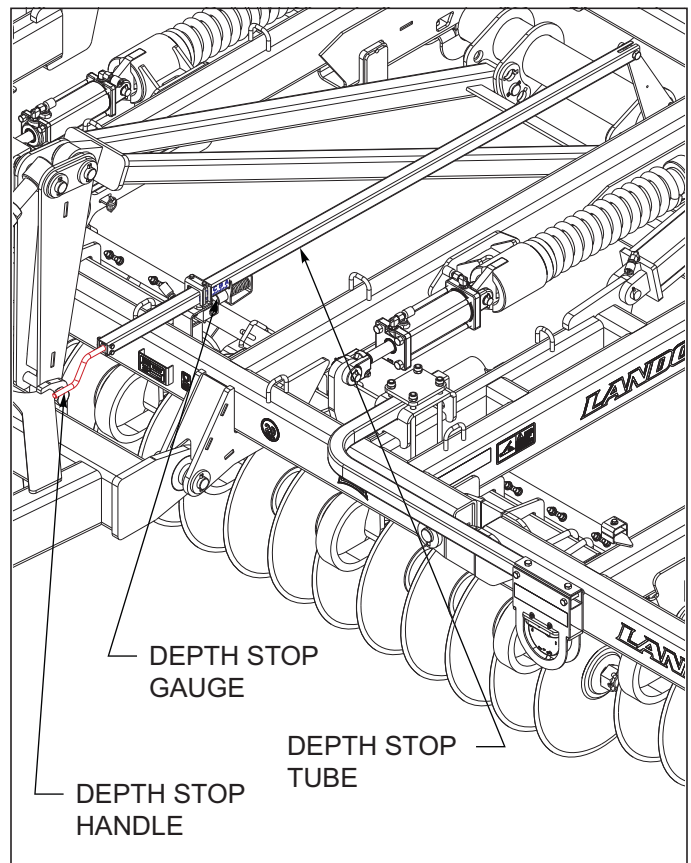

Figure 4-10: Depth Stop Adjustment
1. Adjust the depth stop by turning the handle out (counter-clockwise) to increase operating depth *See Figure 4-10*. Turn the handle in (clockwise) to decrease operating depth. One turn will equal approximately 1/8" adjustment in depth. Arrows on the front will also show this.